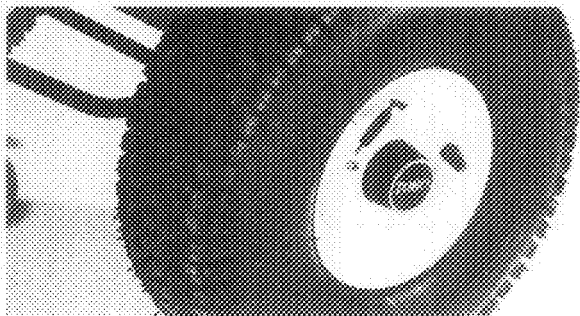

Figure 13
3. Lubricate both front wheels w/No. 2 general purpose grease (Fig. 13). Pump grease gun about four times. Wipe up any excess grease.